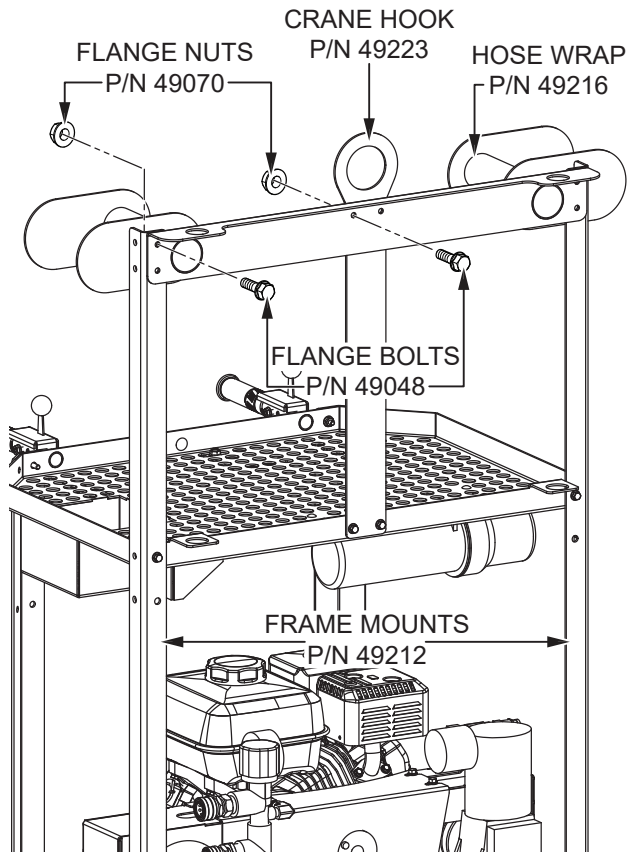

Figure 10. Hose Wrap Installation
7. Secure the hose wrap (P/N 49216) to the front upright frame mounts (P/N 49212) and crane hook (P/N 49223) with six 1/4-20 x 3/4" flange bolts (P/N 49048) and six 1/4-20 flange nuts (P/N 49070). See Figure 10.